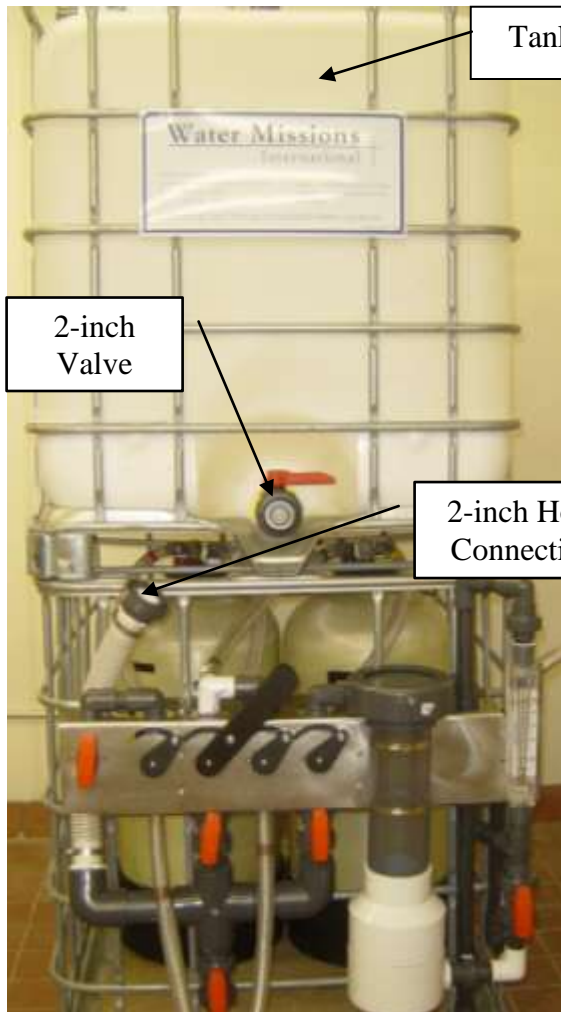

Figure 27: Tank T1 Positioning
- a. Apply Teflon tape to the 2-inch valve on T1 and attach the 2-inch T1 Valve Fitting as shown in Figures 27 and 28.